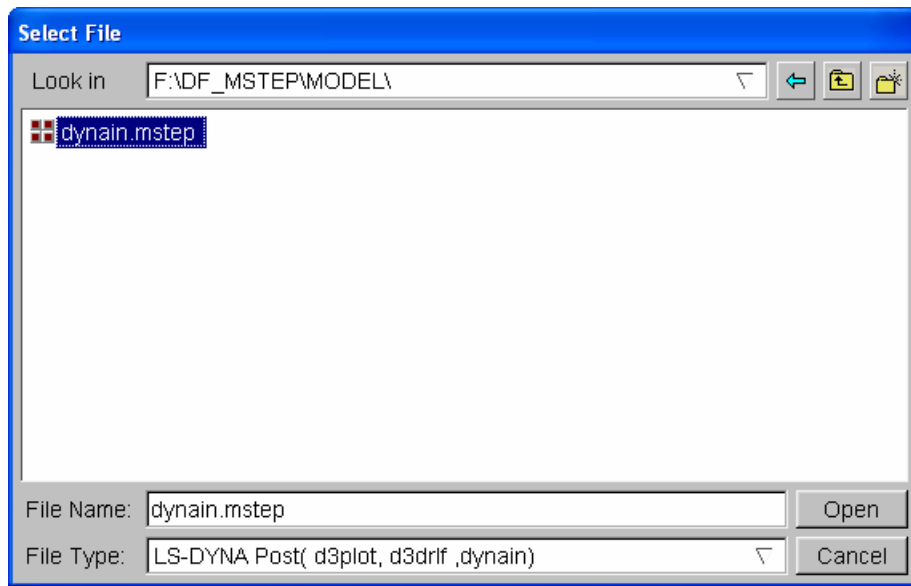

Figure 3.37: Open file dialog box
3. Pop up the dialogue window to open file, select the file of dynain.mstep, and click “Open”, then the result file will be read in, which is shown in the following figure 3.37~3.38.